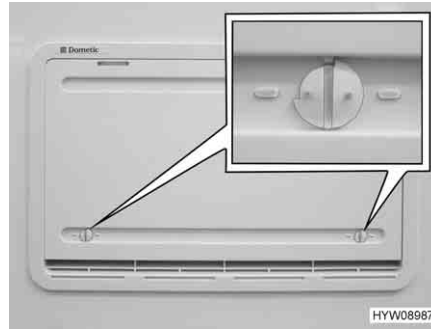

Fig. 175 Winter cover
If the refrigerator is to be operated at low external temperatures, the manufacturer recommends the use of a winter cover (Fig. 175) for the refrigerator ventilation grills.
- Open both locks (Fig. 175) (groove in horizontal position).